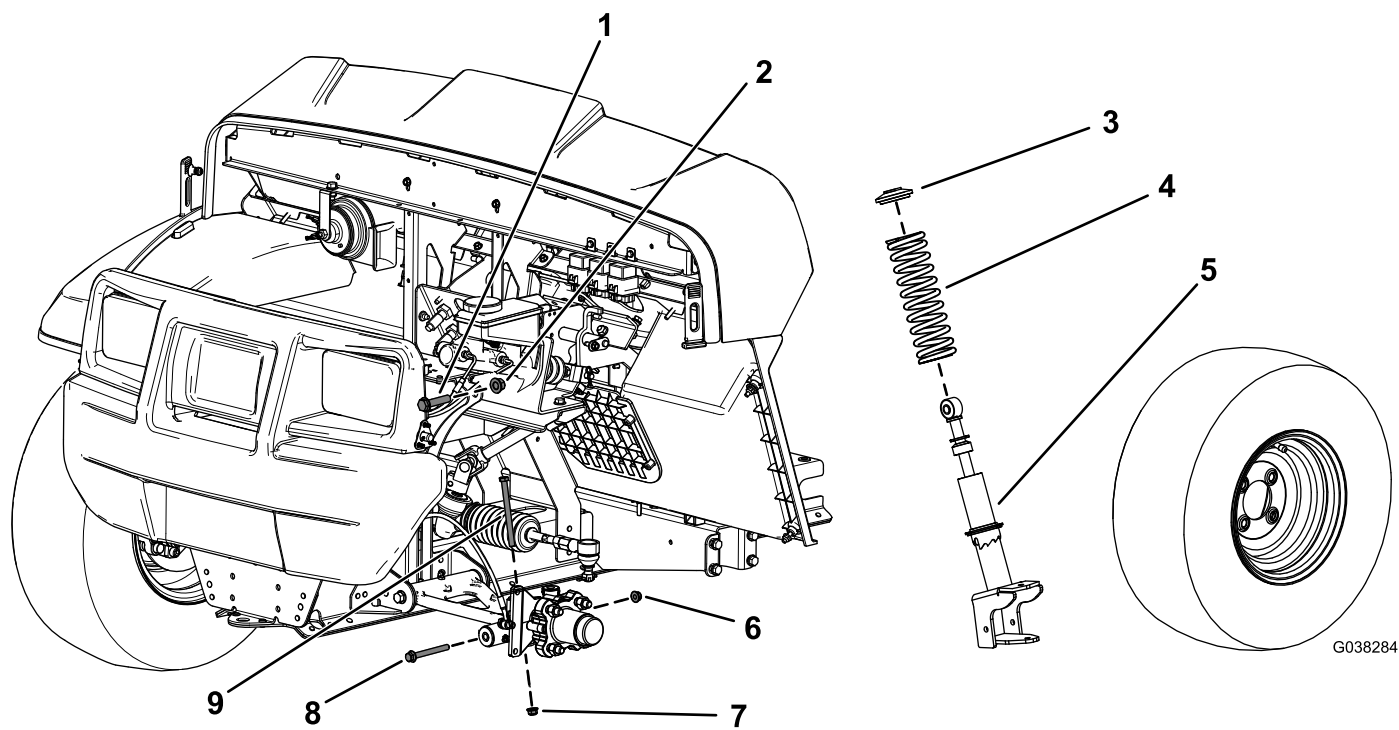

Figure 1
2. Remove the hex-head bolt (3/8 x 4-3/4 inches) and flange nut (3/8 inch) from the spindle (Figure 1).
3. Remove the hex-head bolt (3/8 x 3-1/2 inches) and flange nut (3/8 inch) from the control arm (Figure 1).
4. Remove the hex-head bolt (1/2 x 2-1/4 inches) and locknut (1/2 inch) securing the strut assembly to the upper frame (Figure 1).
5. Remove the strut assembly (Figure 1).
3. Remove the spring from the strut assembly (Figure 1).
4. Install the new spring over the existing strut assembly (Figure 1).
2. Secure the upper portion of the strut assembly to the frame using the upper, hex-head bolt (1/2 x 2-1/4 inches) and locknut (1/2 inch) as shown in Figure 1.
4. Install the hex-head bolt (3/8 x 4-3/4 inches) and flange nut (3/8 inch) to the spindle (Figure 1).
6. Secure the lower portion of the strut assembly to the control arm using the hex-head bolt (3/8 x 3-1/2 inches) and flange nut (3/8 inch) as shown in Figure 1.